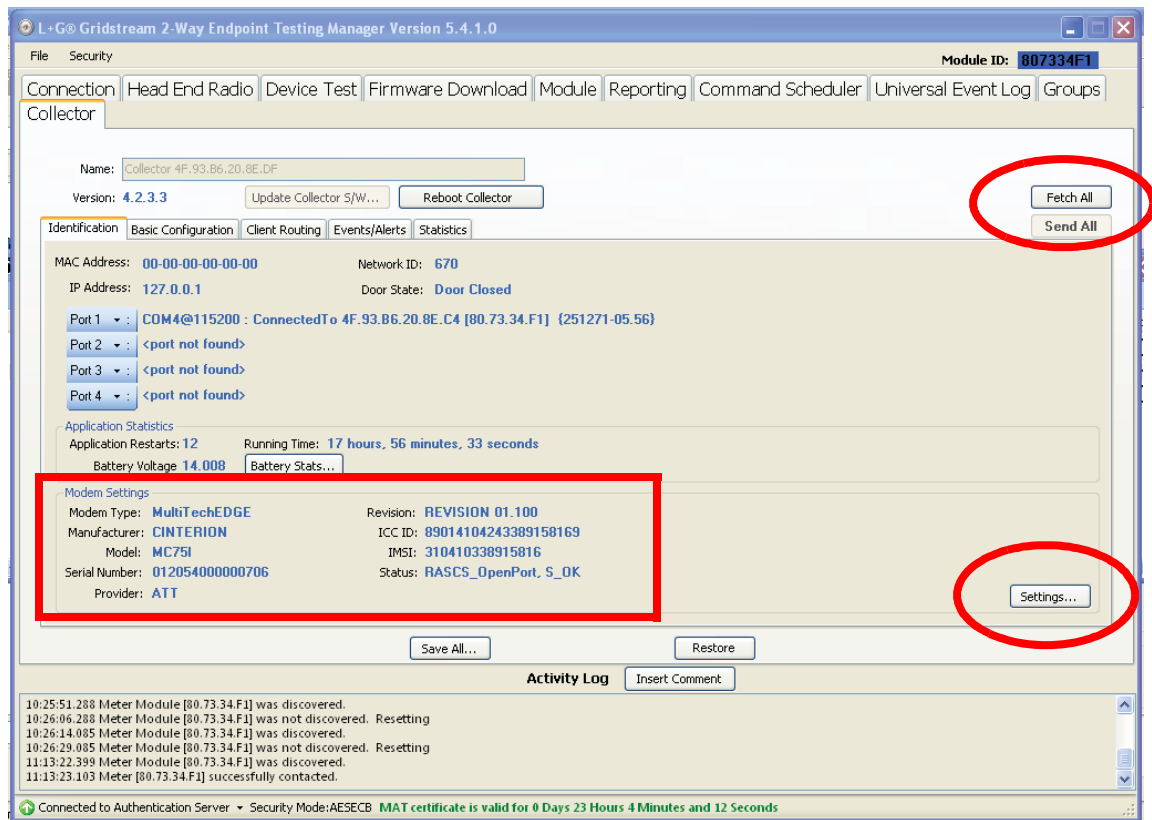

Figure 2 - 13. Collector Tab
10. On the Collector tab, the following **Modem Settings** will be populated, see Figure 2 - 13: